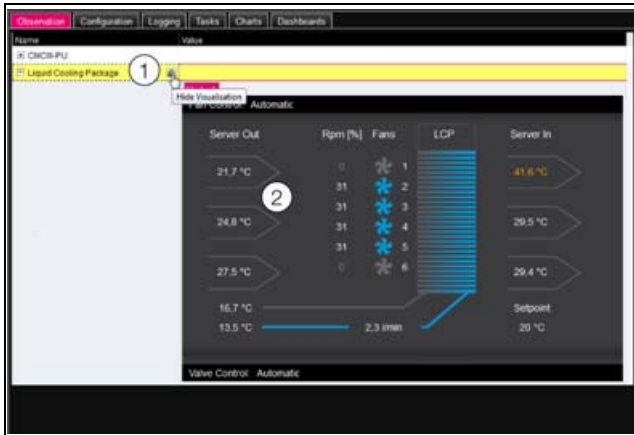

Fig. 104: Graphical representation
The display switches to the graphical representation (fig. 104) and all statuses and speeds of the fans and temperature values for the server inlet and outlet temperature as well as the control modes for the fan and water control can be seen at a glance and amended by clicking the graphic (fig. 104, item 2).
After selecting the "Liquid Cooling Package", if graphical representation (fig. 104) is preselected, you can switch to the tree view as follows:
- Click on the greyed "Graphics" symbol after the "Liquid Cooling Package" entry (fig. 104, item 1).